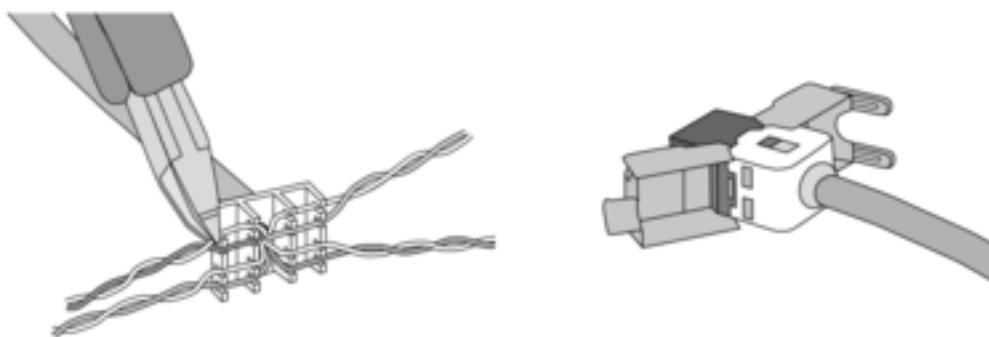

Figure 7: Connection of adapter connector to Ethernet cable
- Connect Ethernet cable to the Ethernet adapter plug. To do this, strip the Ethernet wires, do not skin, and insert into the cover of the adapter plug. Shorten any wires that are jutting out and push the cover onto the adapter plug in the correct position (figure 7).
- Connect the supplied Ethernet adapter cable to the terminal (32) and Ethernet adapter plug.